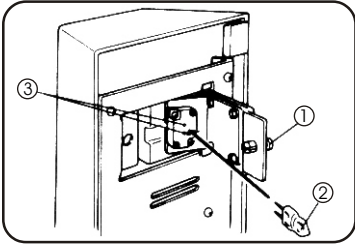

Fig. 6
1. Place the microscope on the back so that the bottom of the base can be seen from the front, then open the lamp bulb replacement cover by pulling the lock knob ① (Fig.6)
2. Hold the lamp bulb ② without taking it out of the polyethylene bag so as not to stain the bulb with fingerprints, etc., and push the bulb into the pin holes in the socket ③, paying attention not to leave your fingerprints on the bulb. (Fig.6)